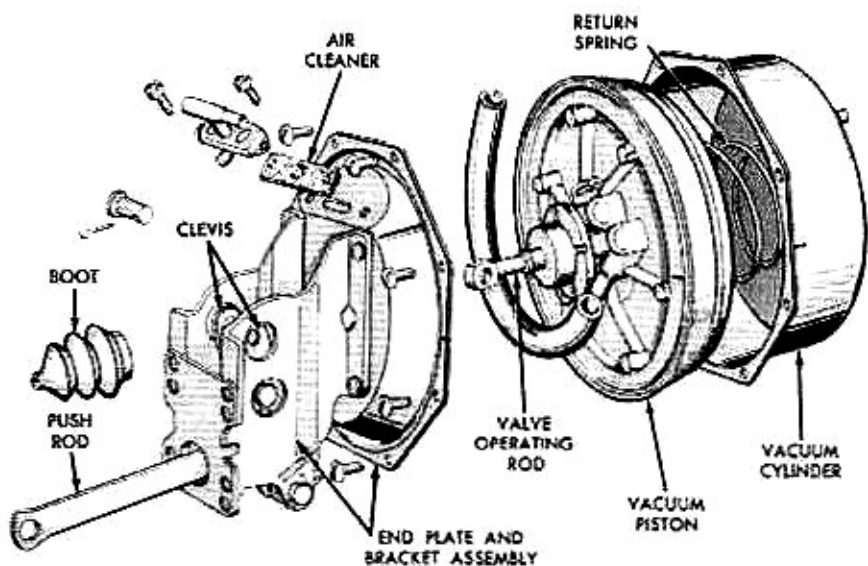

FIG. 5—End Plate and Piston Removed
2. Remove the cotter pin and clevis pin from the end of the push rod and levers (Fig. 5), and then remove the rubber boot from the push rod.